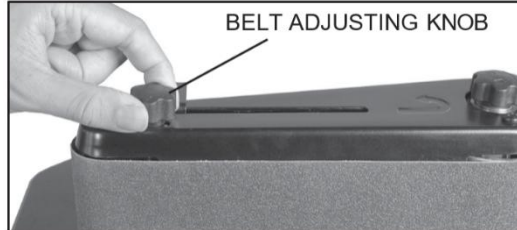

Figure 14: Belt Tracking Adjustment Knob.
- 2- To release the tension on the sanding belt, slide the Belt Tension Lever to the right, towards the embossed direction arrow and the large belt driving drum. FIG. 14.